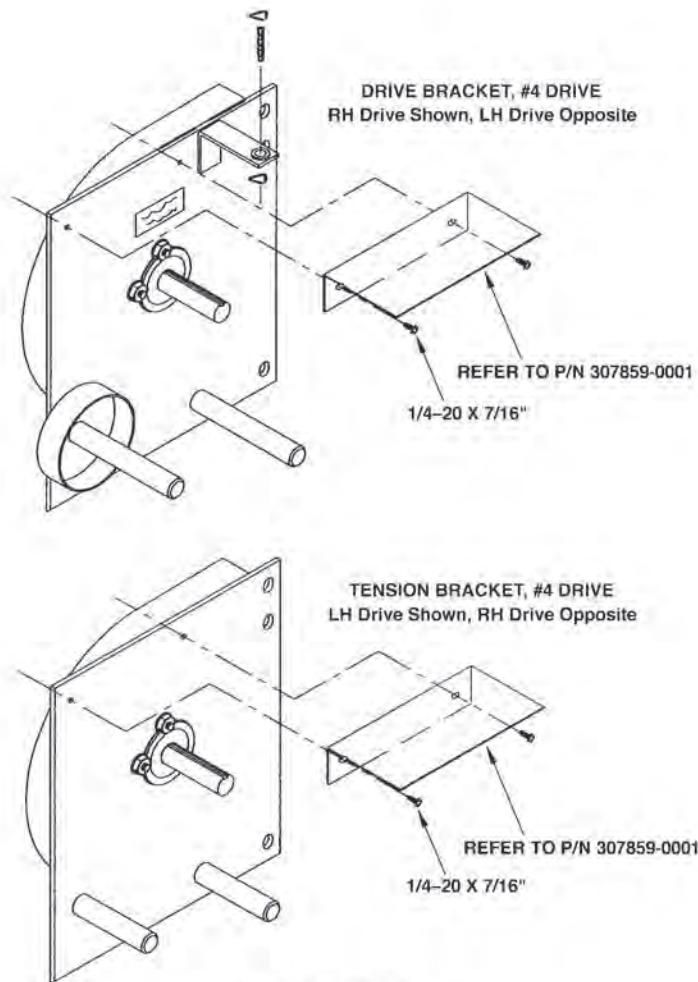
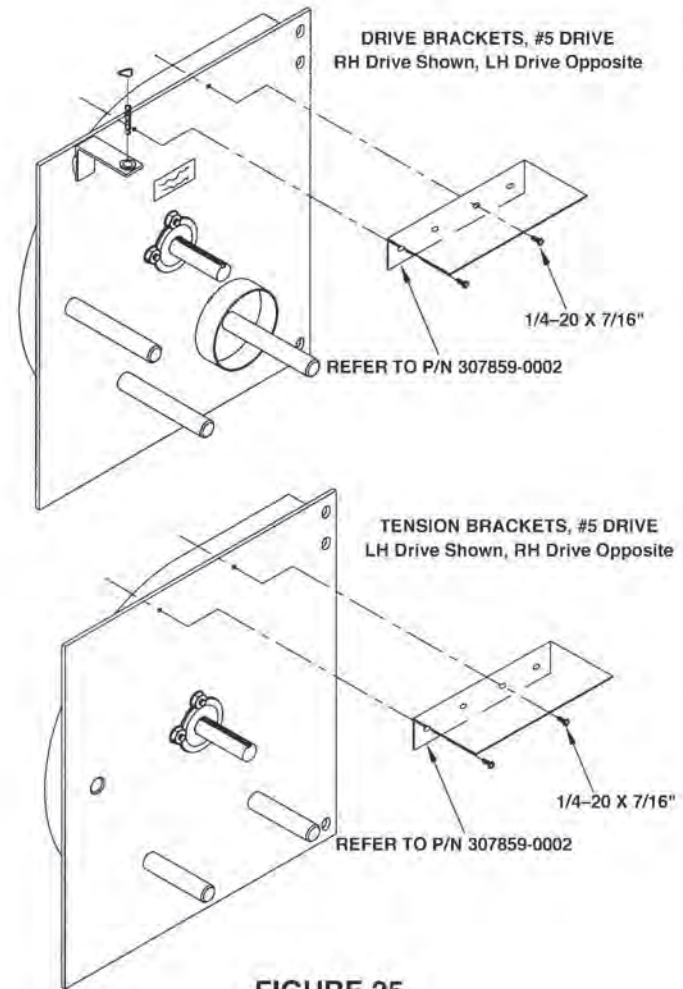

FIGURE 24
FIGURE 25
- Debris shields are standard items and should be installed as shown in Figure 24 and Figure 25.